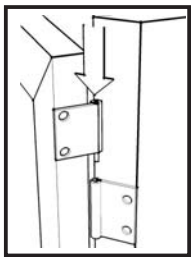

Figure 2
Attach Doors (J) and (K) by sliding the door lift hinges into the side panels lift hinges. (see Figure 2)